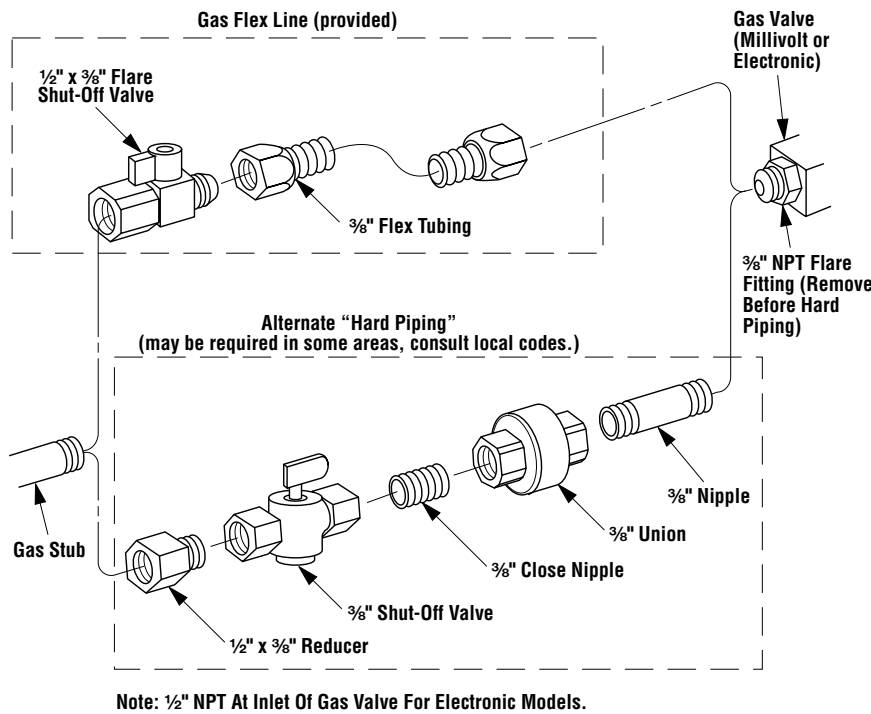

Figure 17
Step 6. Connecting Gas Line – Make gas line connections. All codes require a shut-off valve mounted in the supply line. **Figure 17** illustrates two methods for connecting the gas supply. The flex-line method is acceptable in the U.S., however, Canadian requirements vary depending on locality. Installation must be in compliance with local codes.